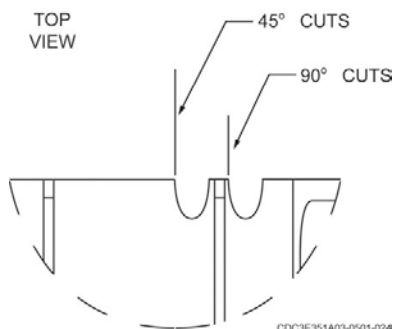

Figure 4-43. Blade alignment notches.
7. Continue to observe the cut line as you push the saw through the material being cut. The saw blade must be on the waste side of the line; otherwise, the material being cut will be short the width of the blade. Most circular saws provide a notch (fig. 4-43) on the front end of the base to aid in blade alignment. (**NOTE:** Any side-to-side movement during the cutting process may cause the blade to bind, resulting in a kickback. If the saw does bind, stop the saw and slide the saw back to where it runs without binding.)